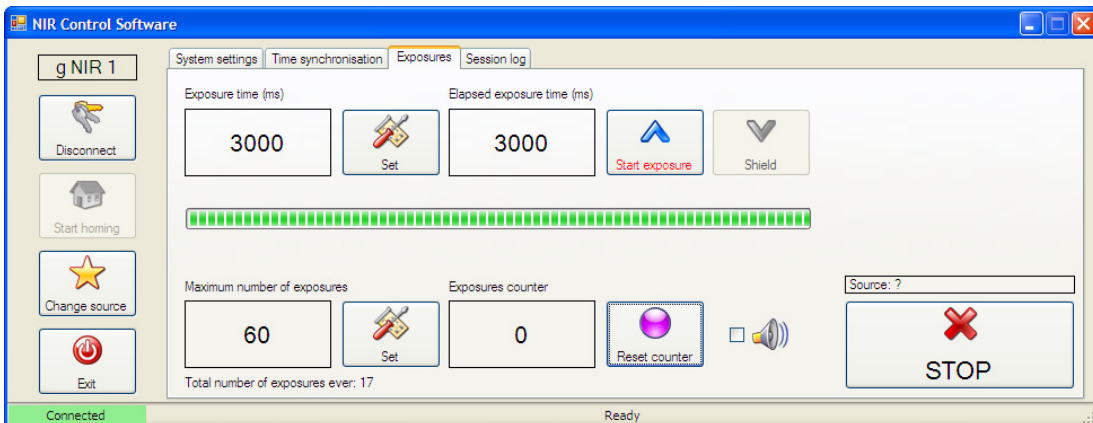

Figure 26: NIR Control Software ready to start an exposure.
8. Perform a homing operation by clicking the "Start homing" button. The cylinder will slowly move down until it reaches the homing limit switch. The NIR Control Software will switch to the "Exposures" tab automatically (Figure 26). The irradiator is now ready to expose the source or to change the source.
Changing a source is only possible from the normal operation state. The NIR Control Software indicates "Ready" at the bottom of the window (Figure 26).
1. Click the "Change source" button in the NIR Control Software (Figure 26)